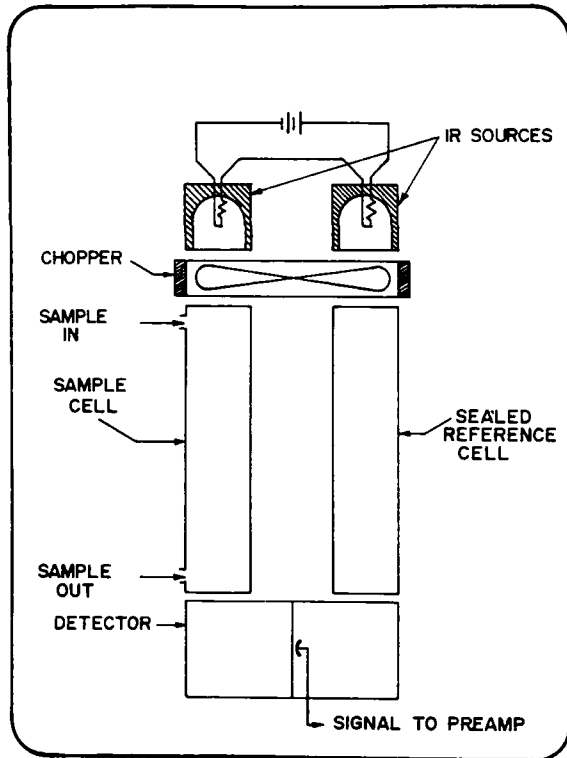

Figure 2-1
1. With the engine at operating temperature and idling, Figure 2-1 shows a "normal" reading.